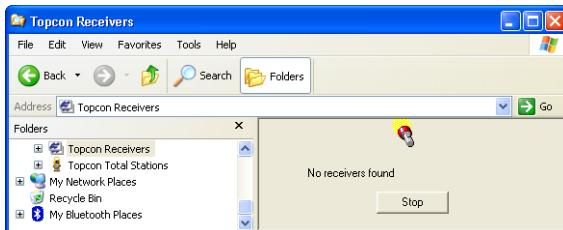

Figure 2-52. Searching for Topcon Receivers in Windows Explorer
1. Open Windows Explorer and click the Topcon Receiver folder. The right panel of the window displays (Figure 2-52) and automatically begins searching for Topcon receivers connected to any of the computer ports (COM and USB).